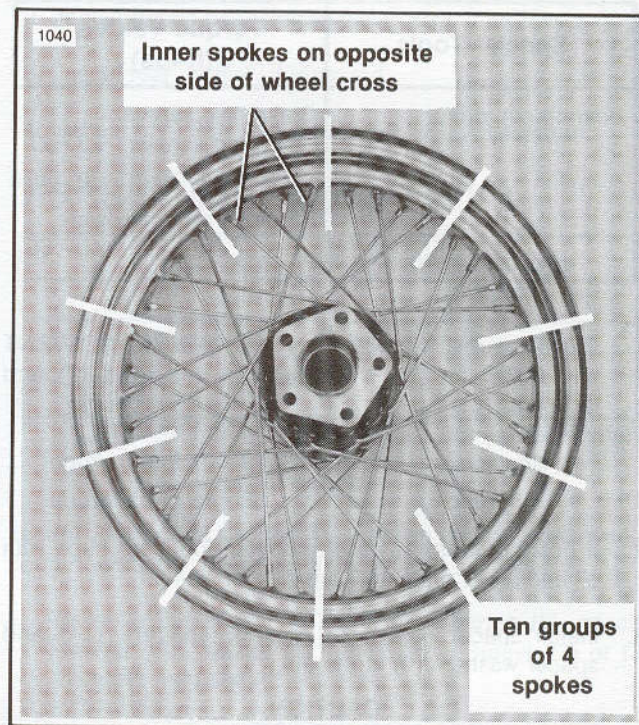

Figure 2-17. Laced Wheel
4. See Figure 2-17. The rim is divided into ten groups of spoke holes, four holes to a group. In each group, only one hole will be angled toward each upper flange inner spoke. Place the rim over the hub, APPROPRIATE SIDE UP, and insert the spokes into these holes. Secure each spoke with a nipple screwed on the end about three turns, just enough to hold it in place.